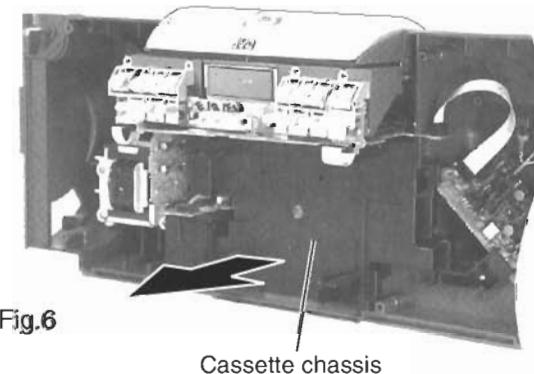

Fig.6
(See Fig.6 to 8)
- Remove the cassette chassis (See Fig.6).